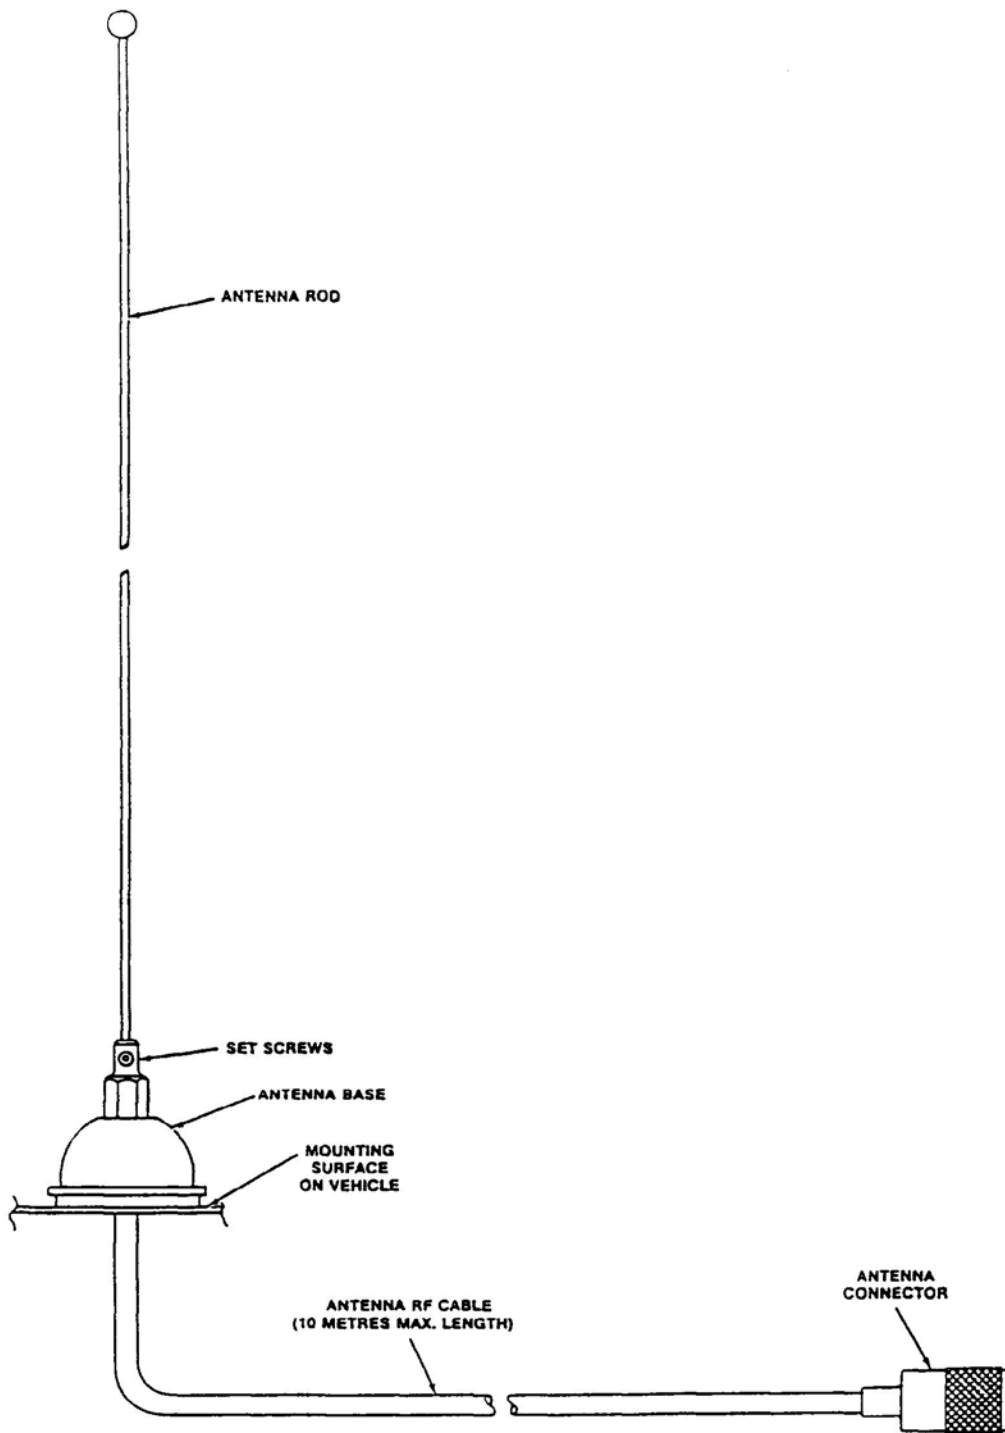

Figure 1-5 Antenna assembly - General View
- (e) Antenna Assembly, Part Number 861910-1, is supplied complete as a kit which includes the following items: Antenna Base, which includes a mounting pad, together with a pad, braid nut, sleeve and clamp for termination of the antenna RF cable. The Antenna Rod is supplied with an Allen Wrench for adjustment of its set screws. The Antenna RF Cable is a ten-metre length RG58/U coaxial cable terminated at one end by an UHF, male contact, connector which mates with the UHF, female contact, antenna connector located at the right-rear of the transceiver. The antenna may be mounted on any flat surface, roof, cowl, fender or rear deck of a vehicle, however, rooftop mounting is recommended for best performance. A general view of the antenna assembly is given in Figure 1-5.
Antenna Assembly, Part Number 861910-1, is supplied as a kit which includes an installation leaflet. The antenna is shown assembled in Figure 1-5.